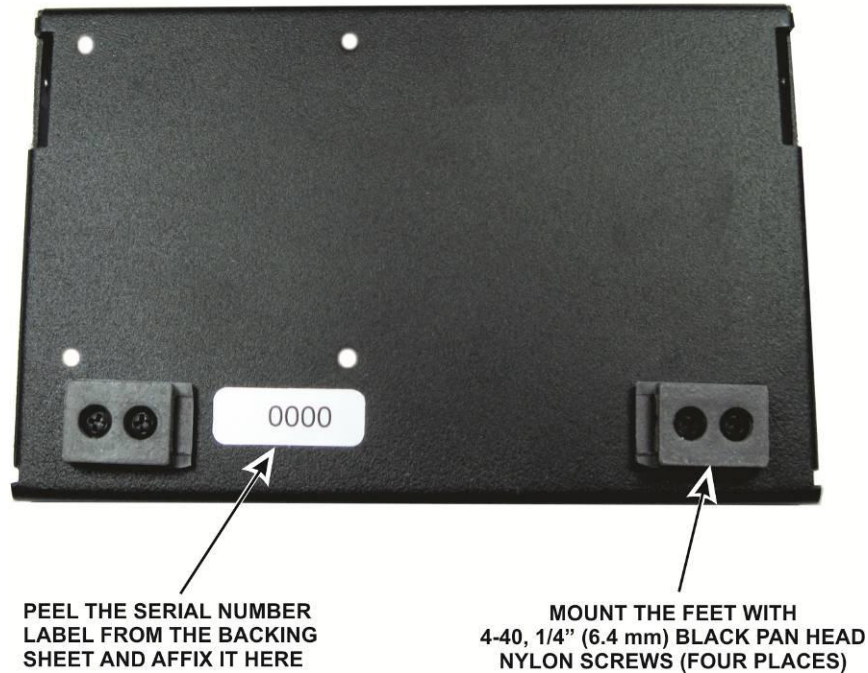

Figure 44. Installing Fixed Feet and Serial Number on the Rear panel.
□ Install the remaining two feet on the rear panel as shown in Figure 44. If the threaded holes have paint in them, clear the paint by running one of the 4-40 thumb screws through the holes first. Note that the remaining four holes are for future use. Peel the serial number off of the backing paper and affix it as shown. Some builders prefer to attach the serial number as the very last step of assembly. There is no reason it must be attached now, but many builders find it easier to get the label on straight when the cover can be laid flat and stable on the work table.